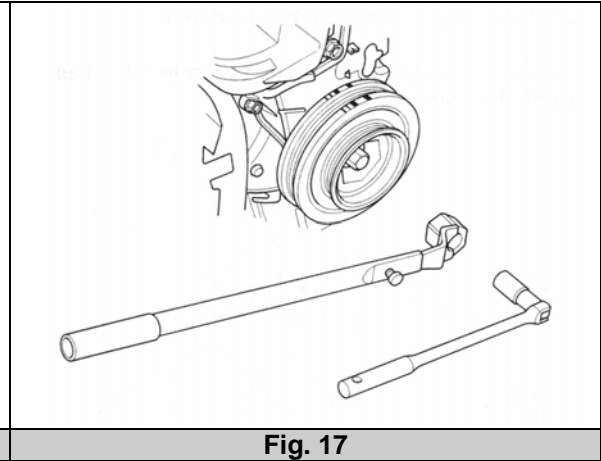

Fig. 17
- x) Remove the crankshaft pulley. Use a commercially available Honda crankshaft pulley holder to prevent the crankshaft from rotating while loosening the crankshaft pulley bolt. (Fig. 17)